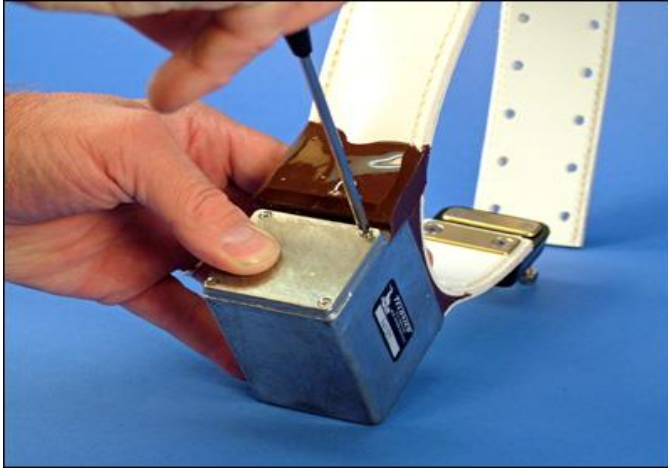

Fig. 7 Cover plate in place and screws being installed
3. Replace the cover plate making sure that the pattern of the gasket sealing area is properly aligned with the sealing edge pattern of the enclosure. Gently press the cover plate and attached foam into place in the housing. Visually align the holes in the cover plate with the holes in the housing. **(Fig. 7)** Insert a screw into one of the holes and partially tighten it. Insert the rest of the screws and partially tighten them. Inspect to make sure the power leads are not pinched between the cover plate and the housing. Tighten all 4 screws. **DO NOT** over-tighten. The cover plate will sit flush on the housing when properly installed and tightened.